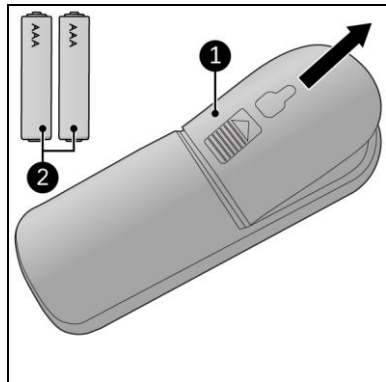

Figure 13
1. Remove the cover (Figure 13, pos. 1).
3. Insert two batteries (AAA 1.5 V) (Figure 13, pos. 2) as indicated in the battery compartment. Make sure to insert the batteries correctly.
5. Remove the batteries (Figure 13, pos. 2) from the remote control.